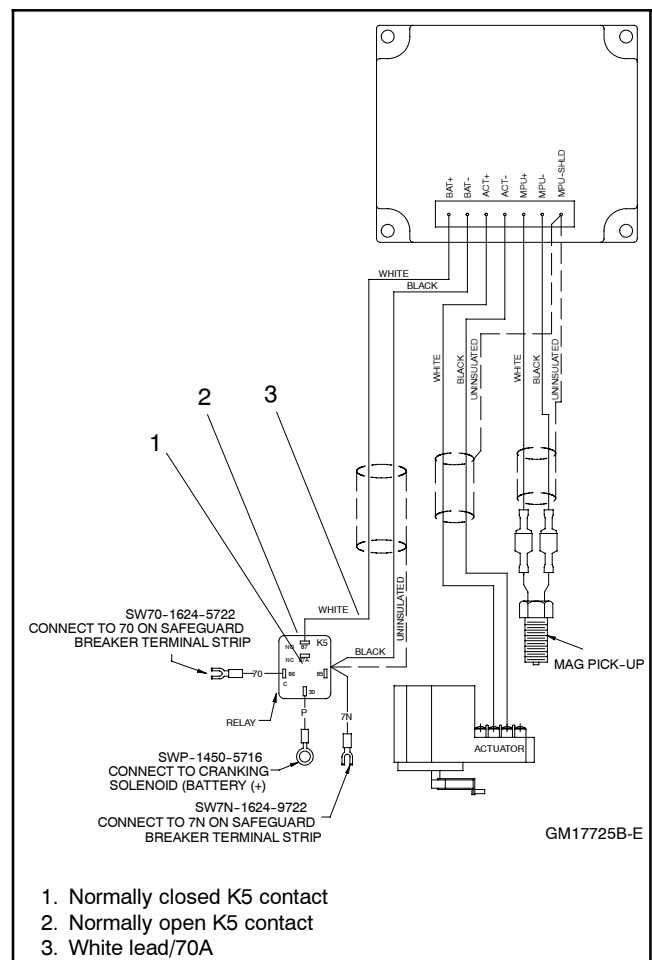

Figure 10-16 Energizing the Governor Controller (non-load share model shown)
- g. Energize the governor controller by moving the white lead/70A from the normally open K5 contact to the normally closed K5 contact. See Figure 10-16. Connecting to the normally closed contact will energize the governor controller without starting/running the generator set.
- b. Move the white lead/70A from the normally closed K5 contact back to the normally open K5 contact. See Figure 10-16.